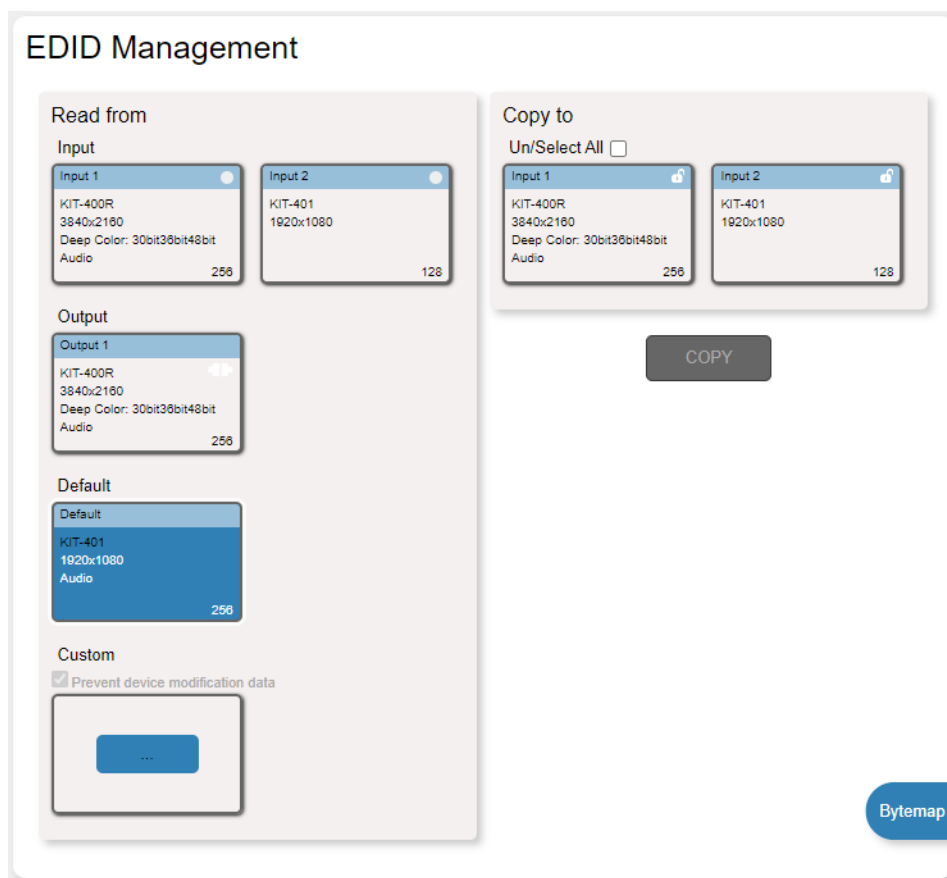

Figure 44: EDID Management Page
1. In the Navigation pane, click **EDID Management**. The EDID Management page appears (see Figure 44).
1. In the Navigation pane, click **EDID**. The EDID Management page appears (see Figure 44).